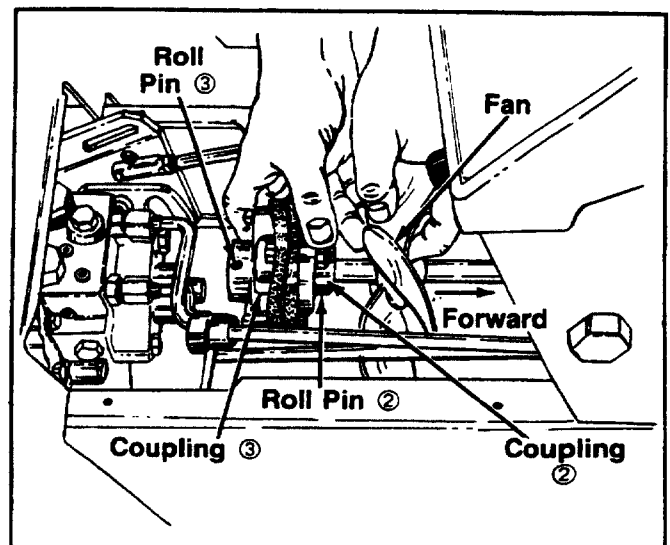

FIGURE 6.
5. Slide the fan all the way forward, out of the way. See figure 6.
6. Remove roll pins from couplings ② and ③. See figure 6.
7. Slide couplings ② and ③ along with flexible discs as far forward on shaft as possible.
8. Remove the shaft, coupling assembly and fan from the tractor, by pushing the shaft forward enough to clear the hydro pump. See figure 6.